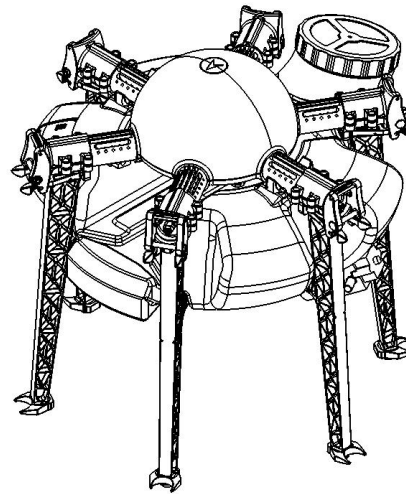

Figure 6
- 5) Mount the rest 5 landing gears as Figure 6.